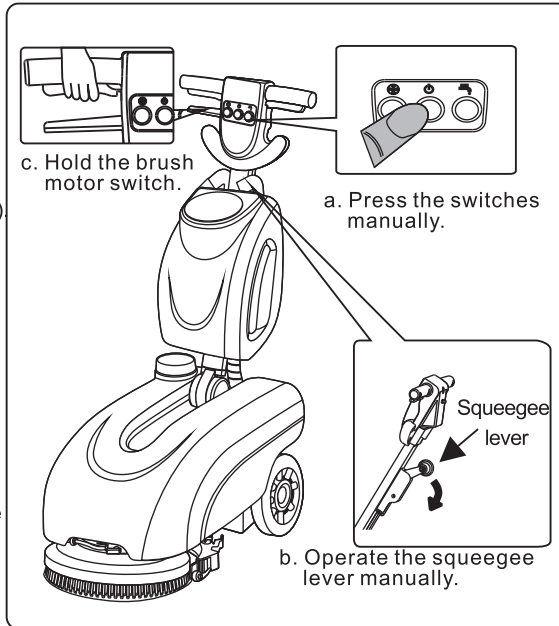

fig.8
1. Check whether the sprinkling button and the vacuum button are turn off. Then switch on the ON/OFF switch on the control panel(fig.8-a), the machine will in manual state.
- 2.Put down the squeegee lever to ensure that the squeegee is totally touched with the floor to work(fig.8-b)
- 3.Press the sprinkling button on the control panel(fig.8-a), the solenoid valve begins to work, the machine starts sprinkling water.
- 4.Hold on the brush motor switches on both sides(fig.8-c), the brush can clean the floor.